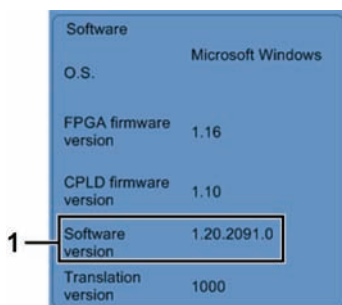

Figure 134: Software version area
The software versions area displays the current revisions of the software and firmware used on your instrument. The version of the main software is shown as item 1 in Figure 134. The remaining entries relate to the operating system and electronic firmware. These are mainly of interest to your service organization.